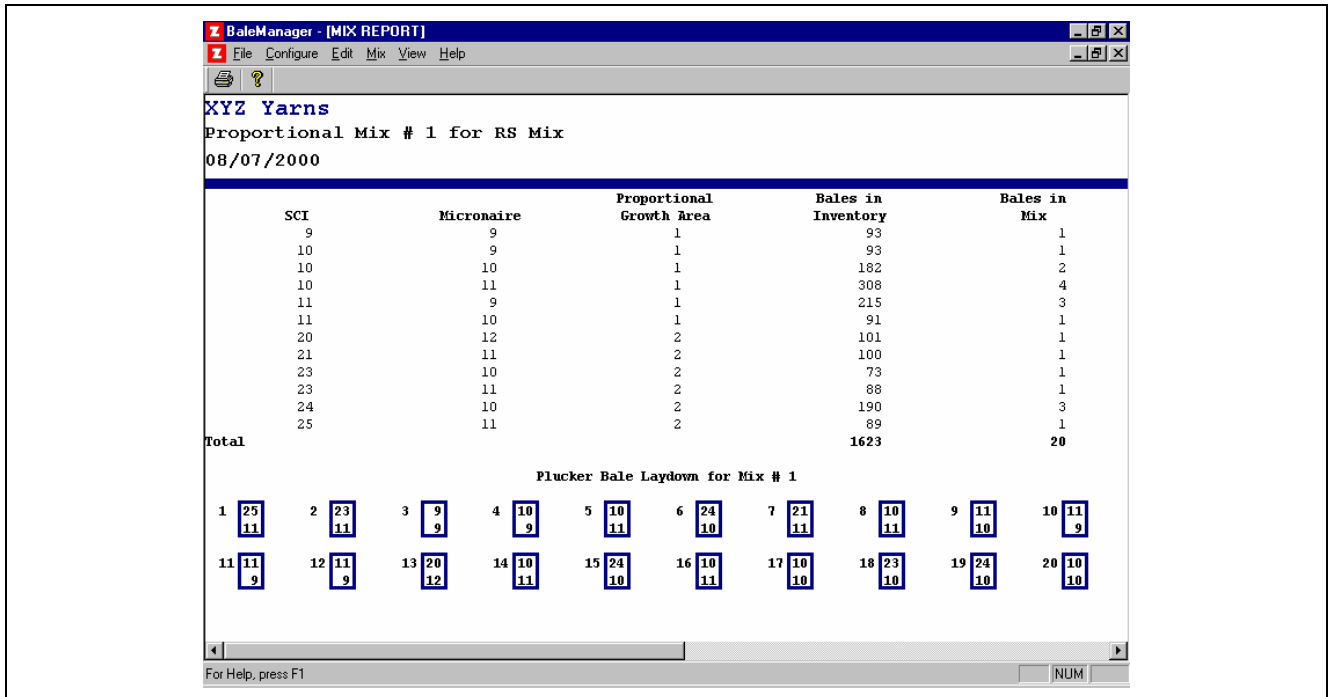

Fig. 6-87 Mix Report Screen
27.2 Select OK and the window Bale Manager – (Mix Report) will appear showing information required for use in selecting bales from the warehouse (Fig. 6-87).